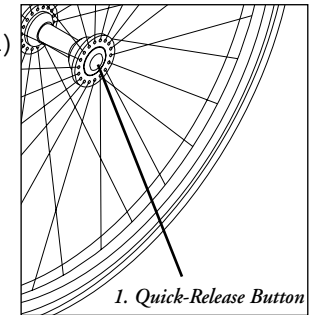

Figure 1
- a. The quick-release button pops out fully. (Fig. 1)
**1. To Install Wheel (Figs. 1 & 2):**
- a. Depress quick-release button (1) fully. This will release tension on ball bearings at other end.
- c. Keep pressure on button (1) as you slide axle (2) into axle sleeve (3).
- a. Depress quick-release button (1) fully.
- b. Remove wheel by sliding axle (2) out of axle sleeve (3).